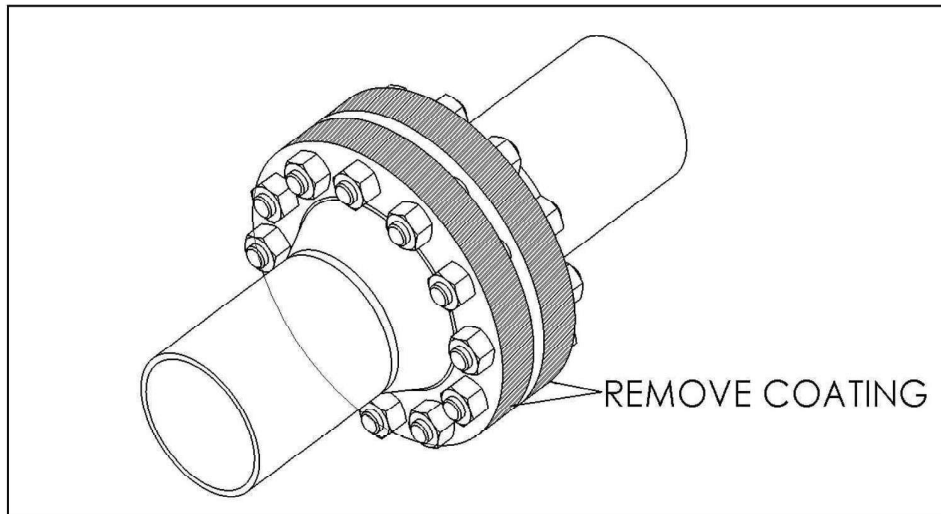

Figure 2
2. Remove all coatings, rust, and scale from the flange surface where the circumferential seals of the PLIDCO Flange+Repair Ring will contact the flanges (see Figure 2). A near-white finish, as noted in SSPC-SP10 / NACE No.2, is preferred. The cleaner the outside surface, the more positive the seal. Sandblasted surfaces should be buffed to a smooth finish.